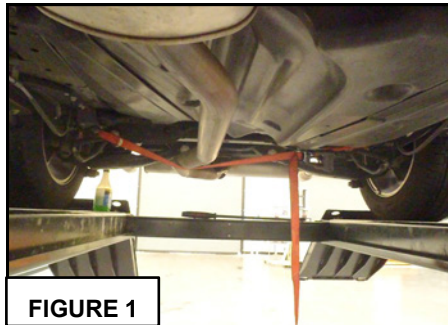

FIGURE 1
1. To ease installation, the rear portion of the exhaust system should be dropped. This can be accomplished by removing the three rear rubber exhaust hangers. A strap of some kind should be used on a forward portion of the exhaust to provide support to prevent damage. FIGURE 1